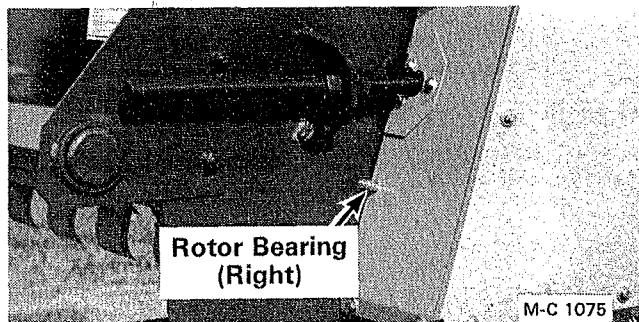

Figure 18 - Left Side also on Model 2206 & 2408
2. Rotor bearings. One fitting on each end of the rotor(s), see Figure 18. and 19.